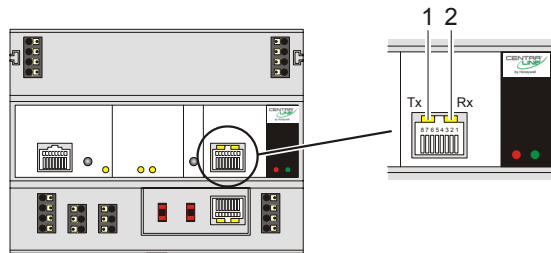

Fig. 3. HMI interface, Tx LED (1) and Rx LED (2)
- The LION controller features an RJ45 serial connection on the front (see Fig. 3) for connection (using the XW882 cable; alternately: the XW582 together with the XW586) of Human-Machine-Interfaces (HMIs).